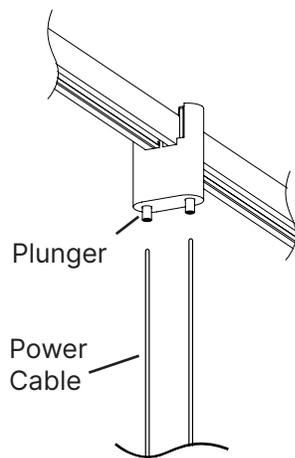

Fig. 1
2. Adjust to the desired length: To shorten, push the **Power Cable** up; to lengthen, push in the **Plunger** while pulling down on the Power Cable, release the Plunger to lock (Fig. 1).